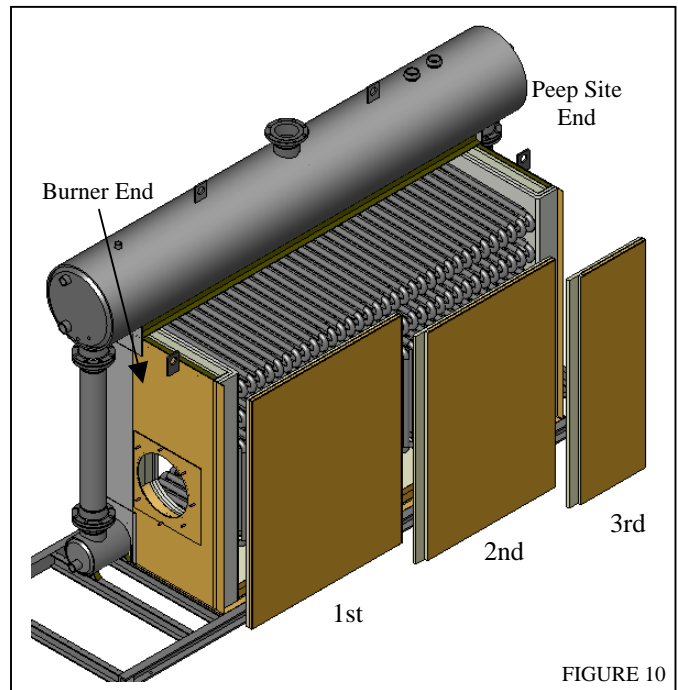

FIGURE 10
- 3.10** Install the flue collector side panels starting from the burner end. See figure 10. Once again, you will notice the color-code system. This assures you that once the colors are in alignment, the flue collector sides are installed exactly the same way they were installed at the factory. If these parts are installed incorrectly, the colors will not be in alignment. Also note the tack welds from the factory help on this alignment.